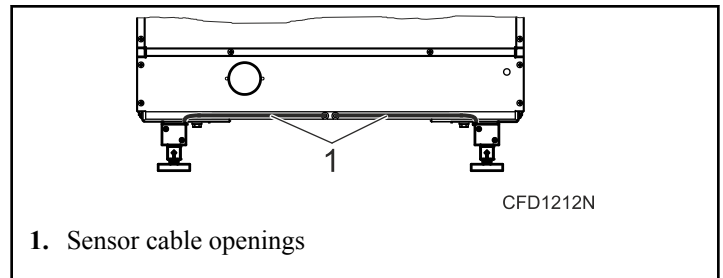

Figure 12
7. Fit the sensor cables into the prepared openings with cable fixtures. Refer to *Figure 12*.